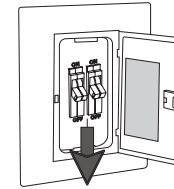

FIG. 5
1. Disconnect power at the breaker to the fan location. A licensed electrician must install the fan (**FIG. 5**).